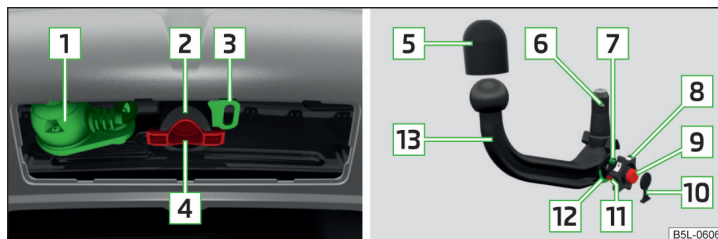

Fig. 143 Carrier for the towing device/tow bar
Support for the towing device and tow bar » Fig. 143
- > Remove the cover for the mounting recess **4** » Fig. 143 on page 124 in a downwards direction.
- Attach the cover for the mounting recess **4** » Fig. 143 on page 124.